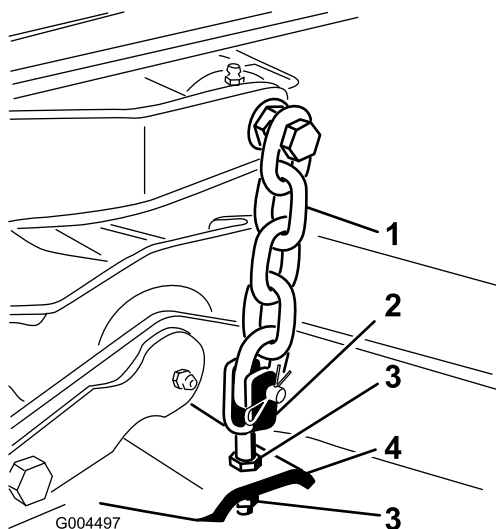

Figure 99
7. Adjust the jam nuts securing the rear deck yokes/chains to raise the rear of the deck so that the blade pitch is set to 8 mm (5/16 inch) (Figure 99).